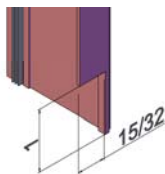

Fig. 13 - Jamb Receptor Closure at Sill
- 9) The jamb closure must be coped at the sill to clear the sub sill and shim stack. For a 1/4" sealant allowance the cope needs to be 1" tall. See Fig. 13